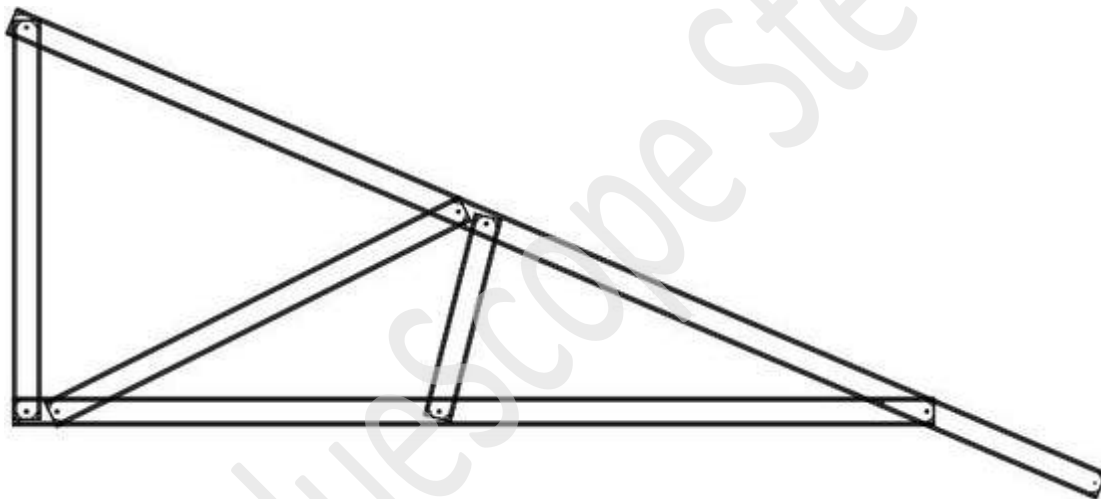

Figure 5.6 Half Truss
5.6) Half Truss: A triangular shaped truss with the end web fixed vertically and at 90 degrees to the bottom chord. It is commonly used to form verandah roofs on the lower floor of two storey homes (Refer to **Figure 5.6**).